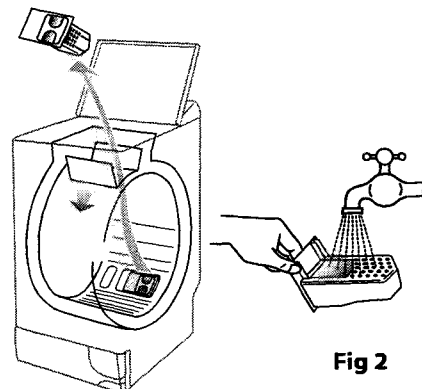

Fig 2
- 4 Remove plastic part (A) by sliding it in the direction of the arrow, then remove the debris trap from its housing Fig 2, empty any items that are inside.
- 5 Rinse all parts under the tap Fig 2, (check that the housing is also clean).
- 6 Replace the debris trap, pushing it firmly into its housing. Refit plastic part (A) and screw (B) by following the above procedure in reverse order.
- rotate the drum so that the closed flaps are at the bottom, you will see a plastic part (see Fig 2)
- Remove plastic part (A) (see procedure in the chapter 'Cleaning the debris trap' on page 12).
- Refit plastic part (A) and screw (B).